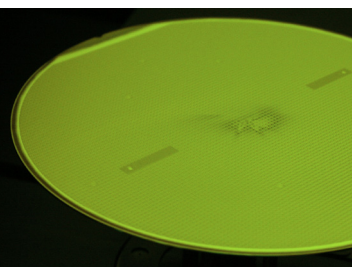

Figure 4
- The monochromatic green light shows a photoresist drip (Figure 4).